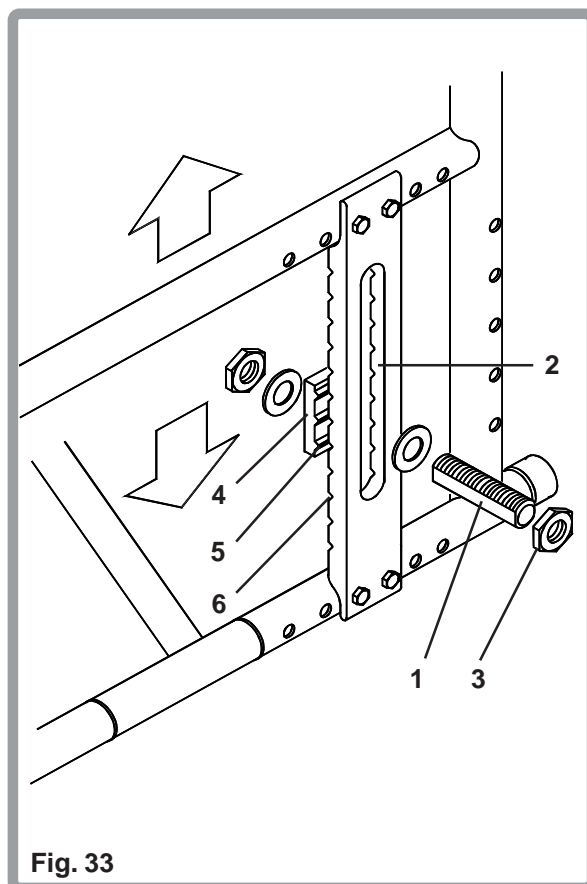

Fig. 33
Seat height can be adjusted by moving the axle sleeve (1) vertically (Fig. 33) in the axle plate slot (2). This allows a 114mm adjustment in 13mm increments. First loosen the 28mm A/F outer retaining nut (3) sufficiently to allow the sleeve and locating plate (4) to slide, and position the sleeve and plate at the required height, ensuring that the keys (5) are located in the required keyways (6). Tighten the retaining nut using a torque wrench to a setting of 45Nm.